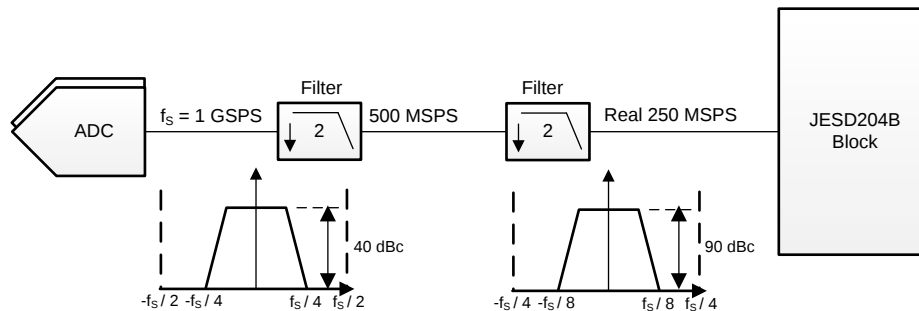

图 56. Operating in Mode 2
In mode 2, the DDC block cascades two decimate-by-2 filters. Each filter can be configured as low pass (LP) or high pass (HP), as shown in 表 2, to allow down conversion of different frequency ranges. 图 56 shows that the LP, HP and HP, LP output spectra are inverted.